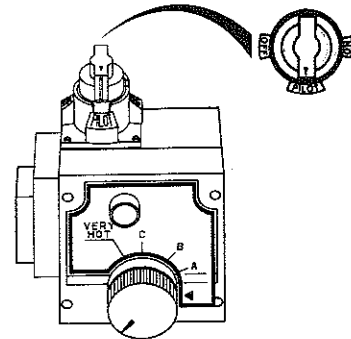

Figure 11
8. If you don't smell gas, turn knob on gas control counter clockwise (↺) to "PILOT" position. (Figure 11, page 15)
9. Push in control knob all the way and hold down. Immediately light the pilot with a match. Continue to hold control knob in for about one (1) minute after the pilot is lit. Release knob and it will pop back up. Pilot should remain lit. If it goes out, repeat steps 3 through 8.